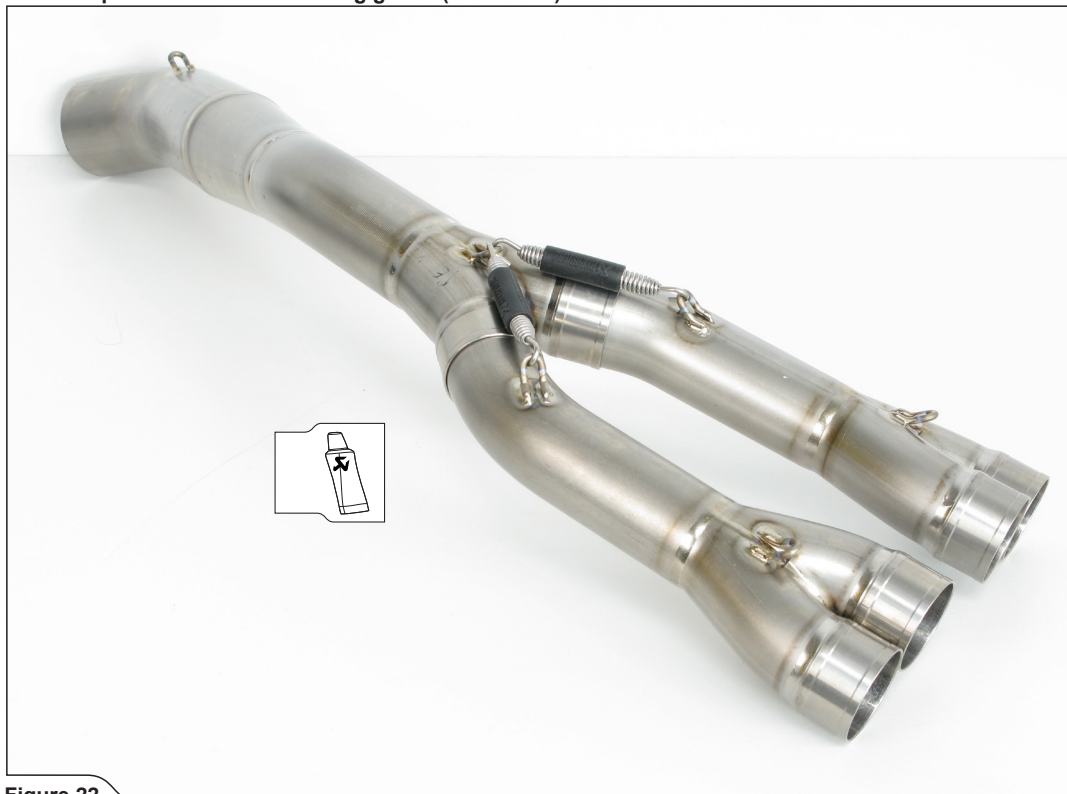

Figure 22
6. Assemble the collectors with link pipe as shown and attach the springs (**Figure 22**).